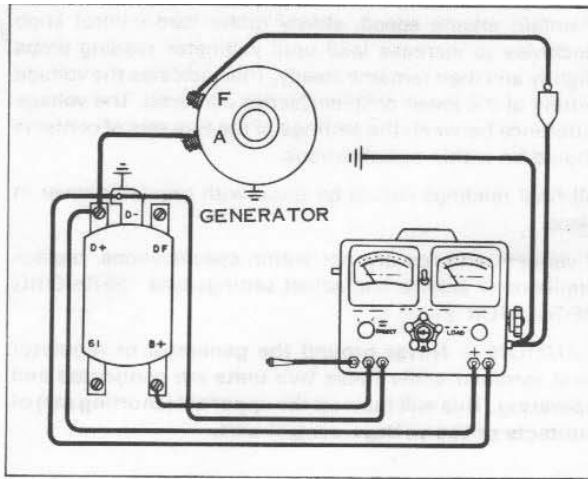

Figure 5-34.
B. TESTER CONNECTIONS (See Figure 5-34)